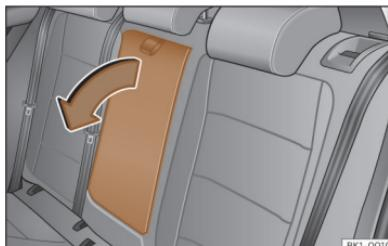

Fig. 101 Folding rear centre armrest (schematic view).
- To *lower* the armrest, pull the cord in the direction of the arrow >>> **Fig. 101**.